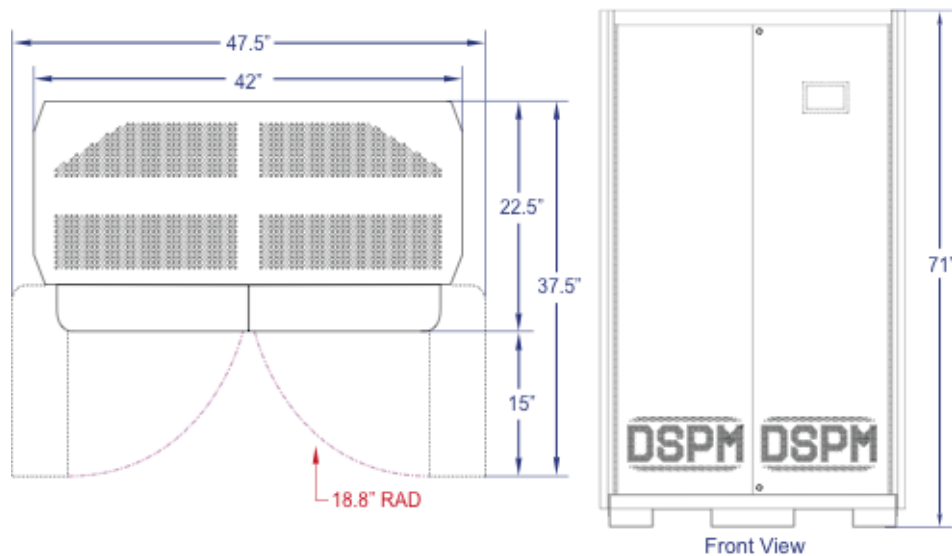

Figure 5
**Note:** Per code requirements, leave 3" on each side of the cabinet (including the back) and 3 foot clearance in front (Refer to Figure 5).